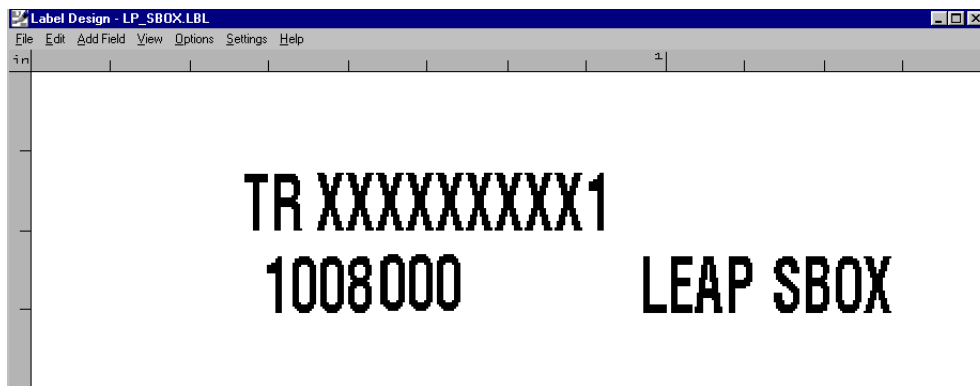

Figure 1-4
1.8. Figure 1-4 shows the label that you opened.